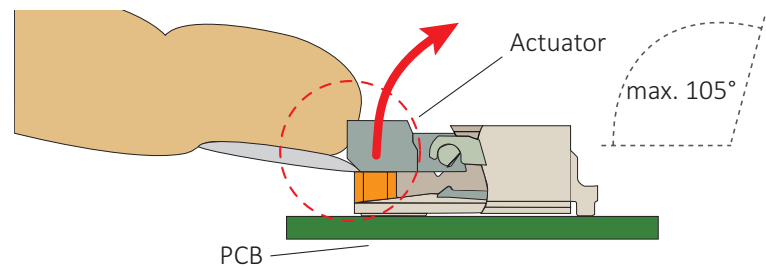

Figure 12: Opening the FPC connector
1. Opening the FPC connector: With your fingernail\*, flip the actuator to open position at 105° to the PCB surface, see Figure 12.